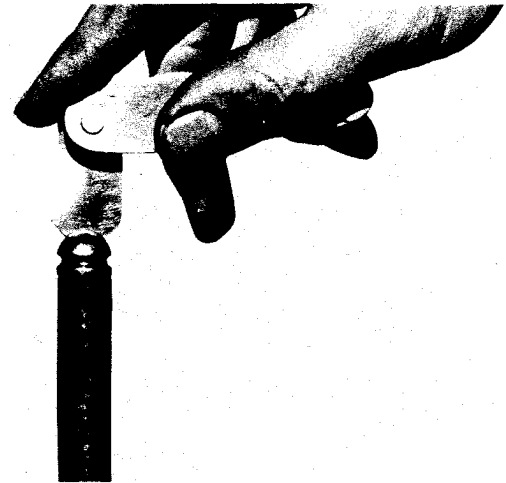

Fig. 4-18, (N20309). Checking push tube ball end with radius gauge
2. Check injector and valve push tube ball end for wear with radius gauge. Fig. 4-18. Ball end diameter of push tubes is 0.619 to 0.625 inch [15.72 to 15.88 mm].